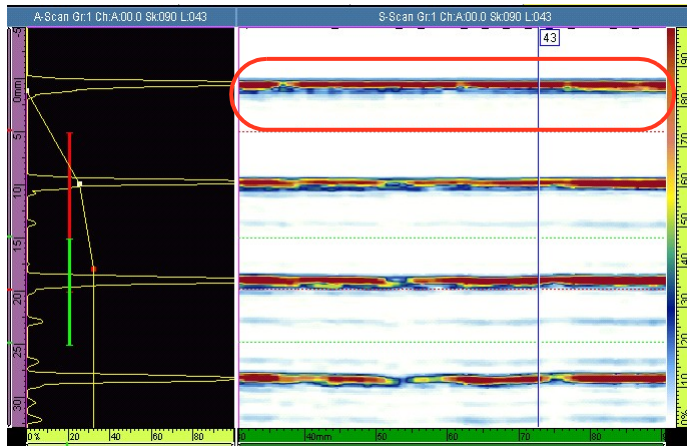

Figure 4-1 An example S-scan display free of bubbles
5. If necessary, lift the scanner, wipe any bubbles from the probe using a finger, and repeat these motions until all bubbles are cleared (see Figure 4-1 on page 34).